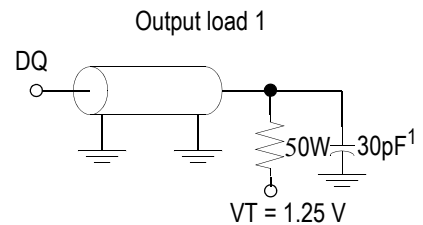

FIG. 1
Output load	Fig. 1 & 2
2. Test conditions as specified with output loading as shown in Fig. 1 unless otherwise noted.